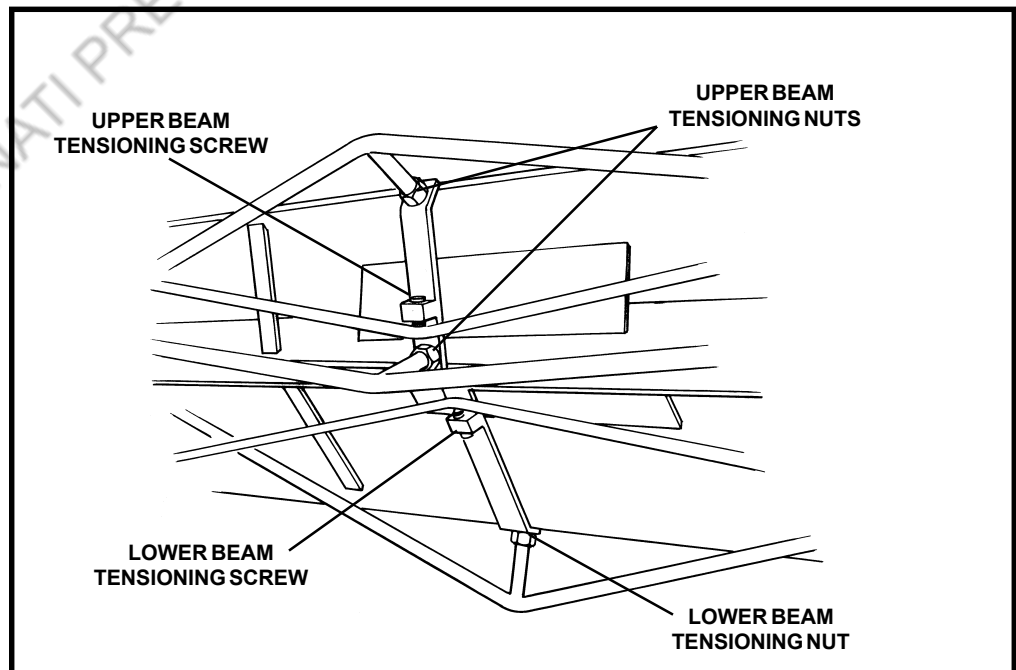
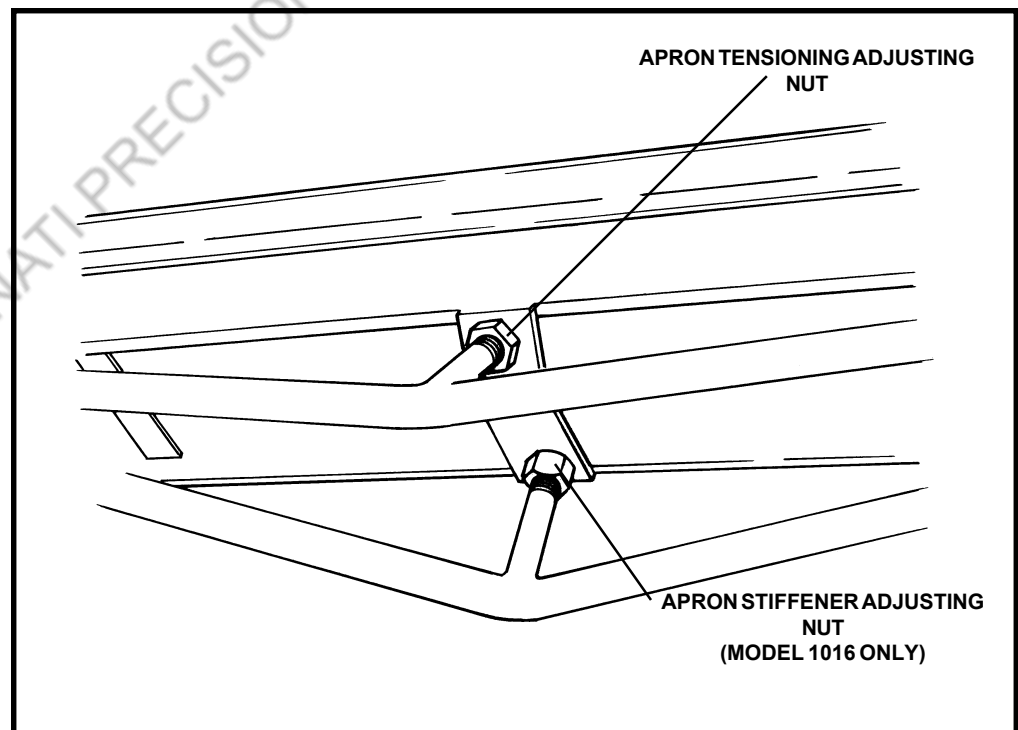

Figure 9. Upper Beam and Bed Tensioning Components.
Figure 12. Preloading Adjusting Components.
This approach may require additional preloading in order to close the hem tightly at the center. Increase the preload by tightening the upper beam tensioning adjusting nut (see Figure 9).
1. Relieve all tension on the upper beam tensioning nuts and on the upper beam tensioning screw (see Figure 9).
3. Adjust the upper beam and lower beam tensioning screws finger tight; and then tighten each with a wrench approximately one full turn (five flats) (see Figure 9).
4. Adjust the upper beam tensioning nuts finger tight, and then tighten each with a wrench approximately one full turn (five flats) (see Figure 9).
1. Loosen the apron tensioning nuts on the apron, (see Figure 12) and the upper and lower beam tensioning nuts (see Figure 9).
On the Model 1016 brake also loosen the apron stiffener adjusting nut located behind the lower apron tensioning adjusting nut (see Figure 12).
2. Loosen the upper and lower beam tensioning screws (see Figure 9).
5. Tighten the apron stiffener adjusting nut until the apron edge is 1/32-in. above the bed edge at the center (see Figure 12). The apron edge should remain 1/64-in. below the bed edge at both ends.
7. Tighten lower beam tensioning nut until the edge of the bed is $1/64$ " above the top edge of the apron at the center (see Figure 9). The edges of the bed and apron will then be parallel from end to end, with the edge of the bed $1/64$ " higher than the apron edge.
On the Model 1016 brake tighten the apron stiffener strap bolt located behind the lower apron tensioning nut until the horizontal gap between the bed and apron is slightly greater in the center than at the ends (see Figure 12). It may then be necessary to back off the lower apron tensioning nut slightly to maintain the bed $1/64$ -in. higher than the edge of the apron.